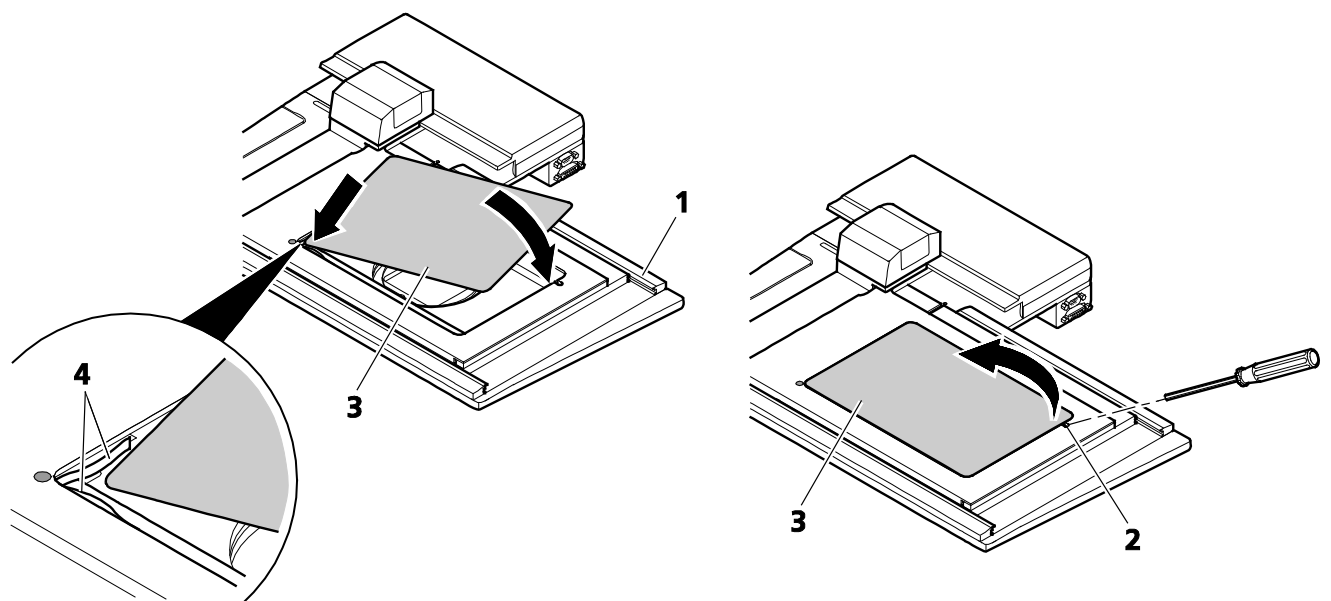

Fig. 4 Inserting the metal plate (glass plate) into or removing it from the stage
- To do this, push the plate (Fig. 4/3) into the stage (Fig. 4/1) with the left front corner slightly inclined allow it to slide under slight pressure against the springs (Fig. 4/4) until it is completely inside the stage interface. The plate is held in the stage by spring pressure. Take care to ensure that the plate is correctly positioned on the stage.
- To remove, insert a screwdriver into the recess (Fig. 4/2) and carefully prise the plate out.